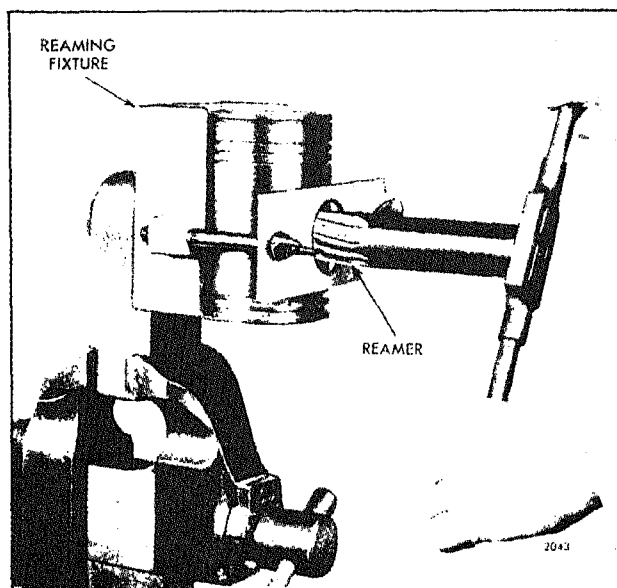

Fig. 7 - Reaming Piston Pin Bushings
(Fig. 7). Then insert the guide bushing J 4970-5 in the fixture and secure it with the set screw.
- d. Ream the bushings (Fig. 7). Turn the reamer in a clockwise direction only, when reaming or withdrawing the reamer. For best results, use only moderate pressure on the reamer.